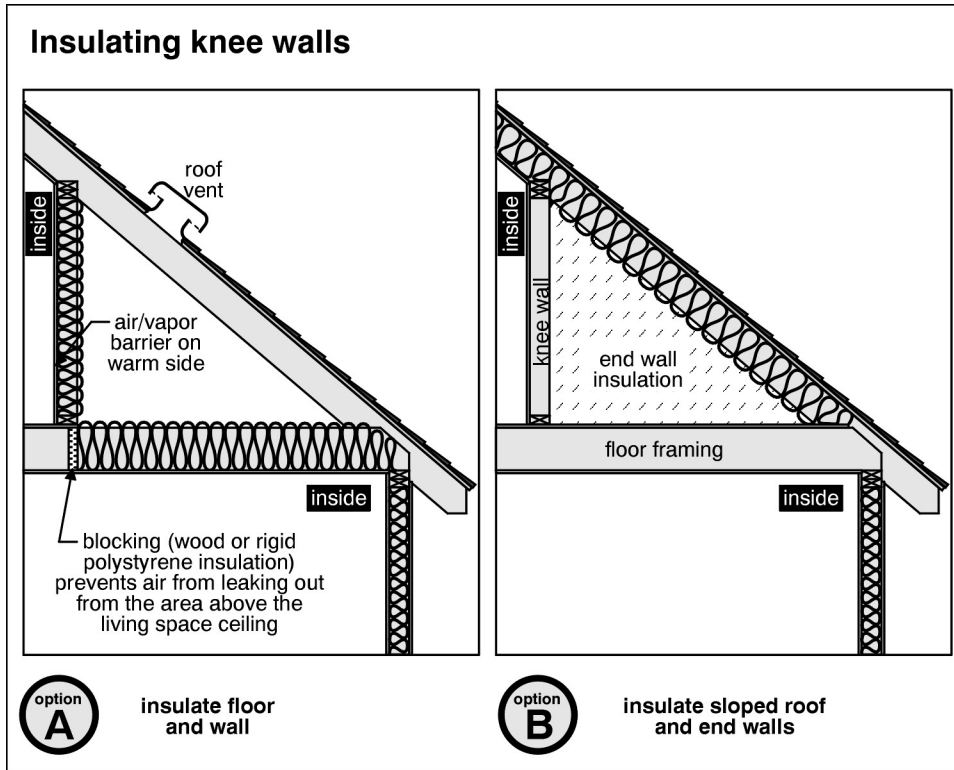

Fig. 5 – Insulating knee walls
- **Knee-wall Attics** – Houses with half-storeys have triangular attics at the edges of the uppermost floor. These attics are prone to warm air infiltration at the floor joist area. Refer to Fig. 5. Also vulnerable on a knee-wall are wall-mounted heat ducts and electrical outlets.